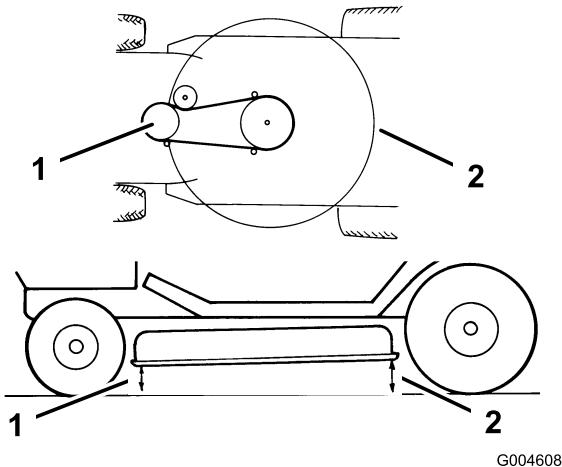

Figure 46
10. Check the front-to-rear blade slope by measuring between the bottom of the mower (front center and rear center) and the flat surface (Figure 46). If the front of the mower is more than $5/8$ inch (16 mm) lower than the rear of the mower, adjust it; refer to steps 11 through 17.